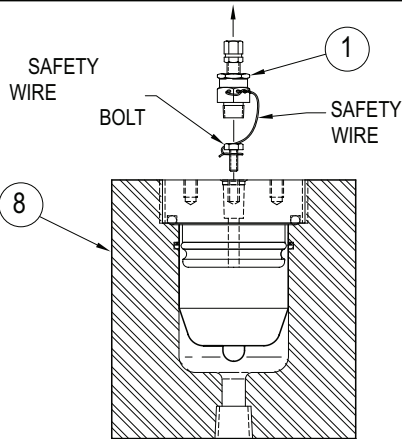

FIGURE 2
3. After all pressure has been removed from dampener, loosen safety wire bolt and remove charging valve safety wire. Next, remove charging valve. Use a 3/4" (19 mm) deep socket wrench to remove the charging valve. Inspect charging valve seal O-ring (BLACOH P/N 900-071) and replace if damaged (see FIGURE 2).